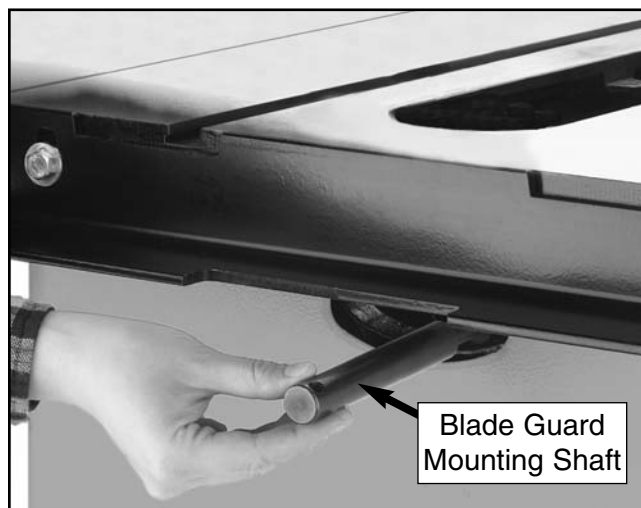

Figure 12. Attaching the $\frac{5}{8}$ "-18 blade guard mounting shaft.
1. Thread the $\frac{5}{8}$ "-18 blade guard mounting shaft into the mounting location on the back of the table saw base as shown in **Figure 12**.